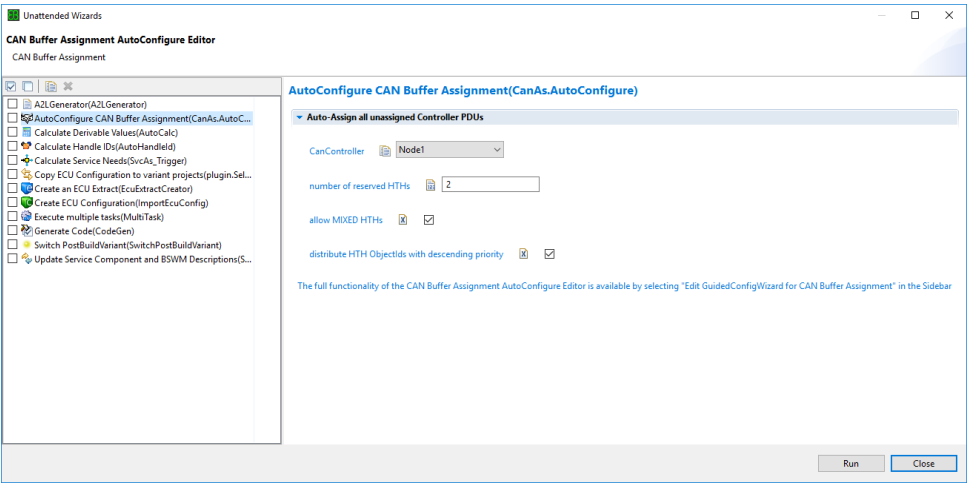

Figure 4.11. Configuring the Unattended Wizard for the automatic CAN Buffer assignment.
3. Configure the parameters in the window that appears, see Figure 4.11, “Configuring the Unattended Wizard for the automatic CAN Buffer assignment.” Section 4.6.2.4, “The CAN Buffer Assignment Editor GUI” provides a description of the parameters.